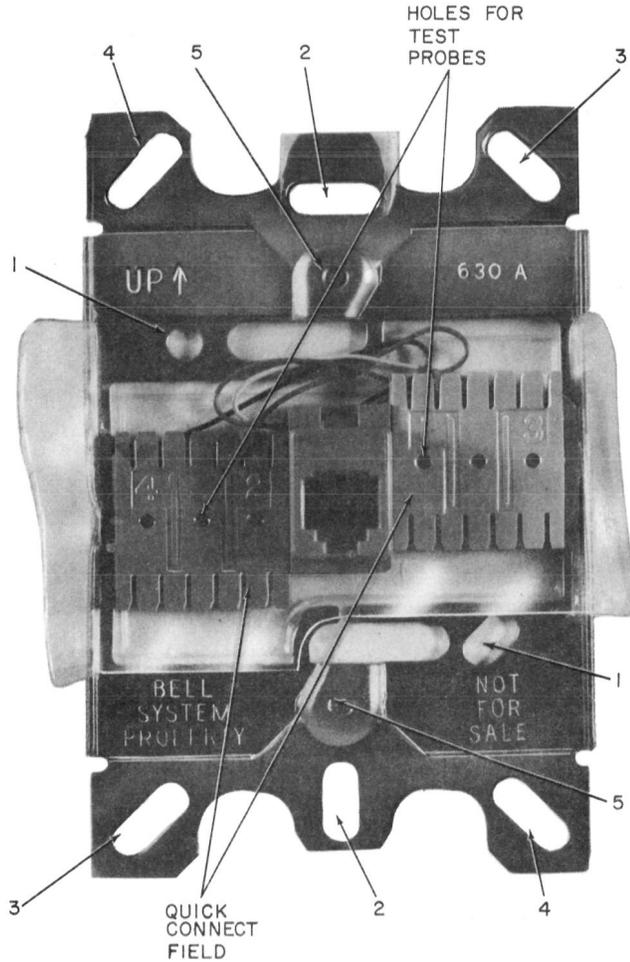

Fig. 9—630A4 Connecting Block (Current Model Without Mounting Plate)
- (a) A fastener package is provided with the 630A4 connecting block consisting of two 3/16-inch 800413577 (P-41357) cover mounting screws, two 5/16-inch 840705008, and two 1-1/8 inch 841065529 flathead machine screws. Depending on mounting arrangement, select proper fasteners from Table B and mount connecting block using holes designated in Fig. 9. The connecting block should be straight before tightening screws.
for the jack conductor. An access for a test point is also provided (Fig. 9).